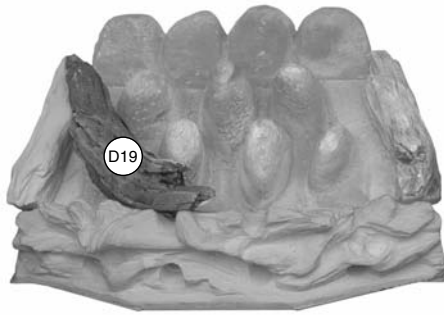

Fig. 55
6. Following Figs. 55 to 61, place the loose driftwood pieces onto the fuel bed. It is important that the driftwood 'nests' together and sits on top of the fuel bed peaks.